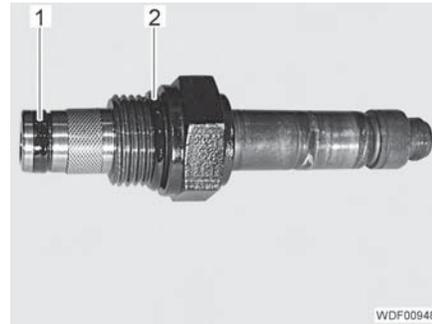

Fig. 177 Seals
- Replace the O-ring (Fig. 177,1) with support ring and O-ring (Fig. 177,2).